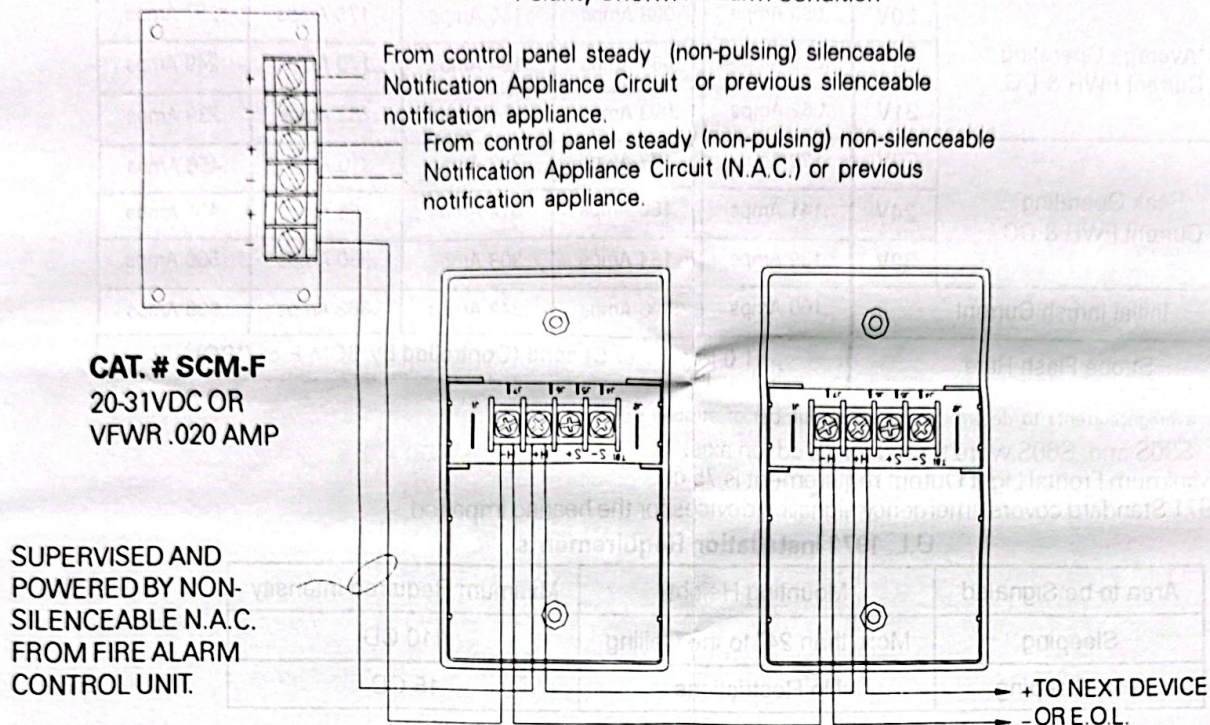

Fig. 4
1. Connect wiring (see fig. 4 or 4a).